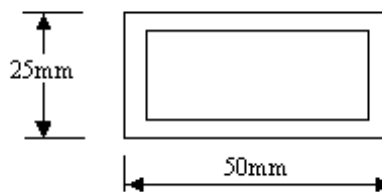

Figure 7b
- (b) Find crippling stress of rectangular tubes shown in figure 7b using Nedham's method, when formed from aluminium. Uniform thickness, $t = 1.5\text{mm}$. Assume necessary data. [8+8]